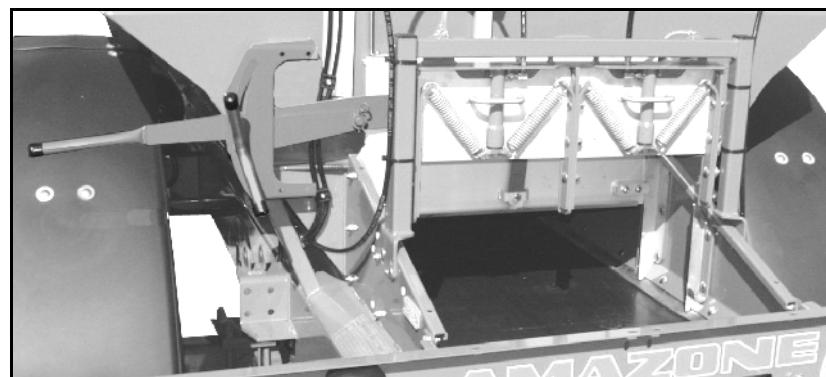

Fig. 15
After you have entered the working width, target quantity, intended speed and bulk density, set the recommended main slider position on the **ZG-B** (Fig. 15).
6. Run pre-dosing until the fertiliser has reached the end of the floor belt (Fig. 15). Double sliders open automatically.